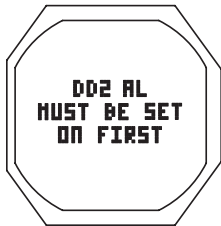

Fig. 133B - SET MESSAGE
**\*\*** If this screen is accessed when DD2 is set Off, a message (Fig. 133B) will be displayed for 5 seconds, then operation will revert to the FREE Menu.